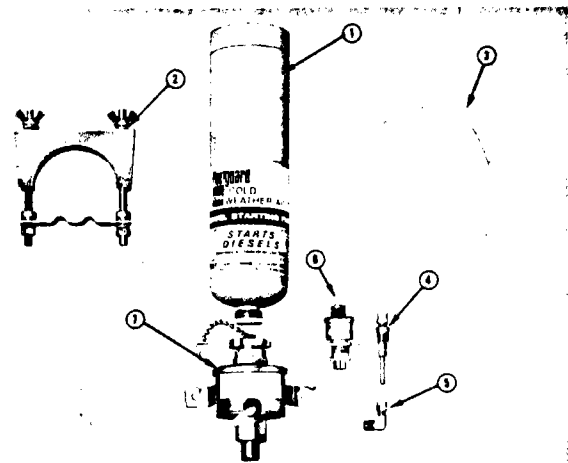

Fig. 1-12, (V11012). Electric operated valve
The electrically operated valve, Fig. 1-12, includes the valve body (7), 90 degree elbow (5), clamp (2), push button switch (6), and nylon tube (3). The thermostat is mounted on the engine exhaust manifold and cuts out the valve by sensing manifold heat when the engine is running. See parts catalog for fuel cylinder (1) and fuel atomizer fittings (4). These fittings must be ordered separately, as required.